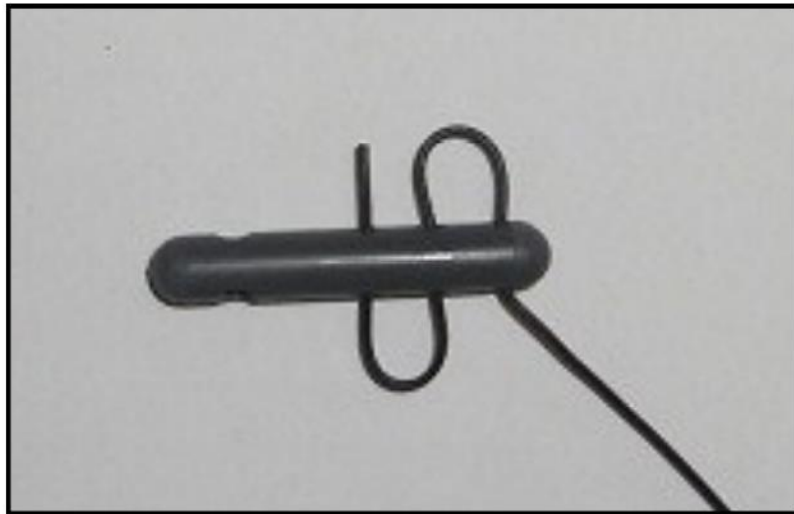

Fig. 1
6. If cutting the wire, once you are satisfied with the overall length of the radiator, lace the end of the wire through the end insulator as shown in Fig. 1. If wound, the wire can be unwound when at proper resonance, laced through the insulator and then rewound along the radiator wire to put the antenna back at the same approximate spot. Starting by lacing the wire through the insulator and then adjusting as needed will also work.